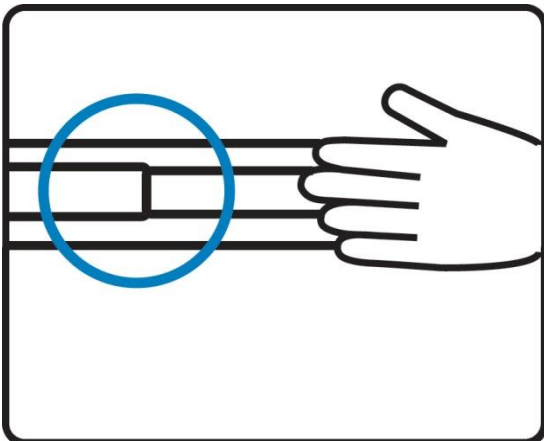

Figure 3.
- Push the LCD keyboard drawer into the rack. (Shown in **Figure 3**).